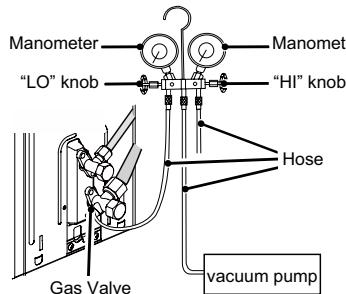

Fig.9
3. As shown in the following figure (Fig.9), expel the gas inside the indoor unit and refrigerant pipe out by the vacuum pump.